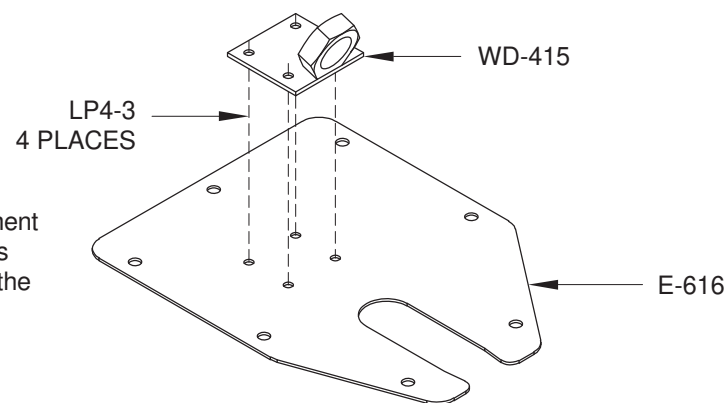

FIGURE 2: RIVETING THE TRIM CABLE ANCHOR BRACKETS
Step 7: Rivet the two WD-415 Trim Cable Attachment Brackets to their corresponding E-616 Cover Plates using the blind rivets called out in Figure 2. Place the head of the rivet on the cover plate.